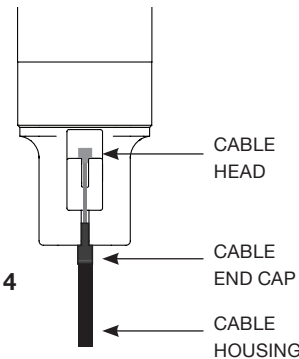

FIG 4
8. Secure the inner cable head into the actuator coupler and insert cable into the seat post end of the housing. (FIG 4)
9. Install the housing into the housing stop. (FIG 4)